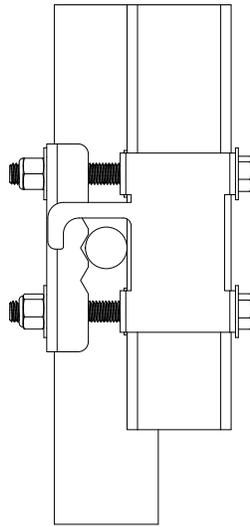

Fig. 3
2. Lift the Vertical Fixed Ladder Davit into place on the front side of the ladder, using the hanger hook brackets located at the top and bottom rung mounting points, to secure the Davit to the rung. The hanger hook brackets will position the Vertical Fixed Ladder Davit so that there is one bolt above the rung and one bolt below the rung for each of the 3 pairs of bolts. (see Fig. 3)